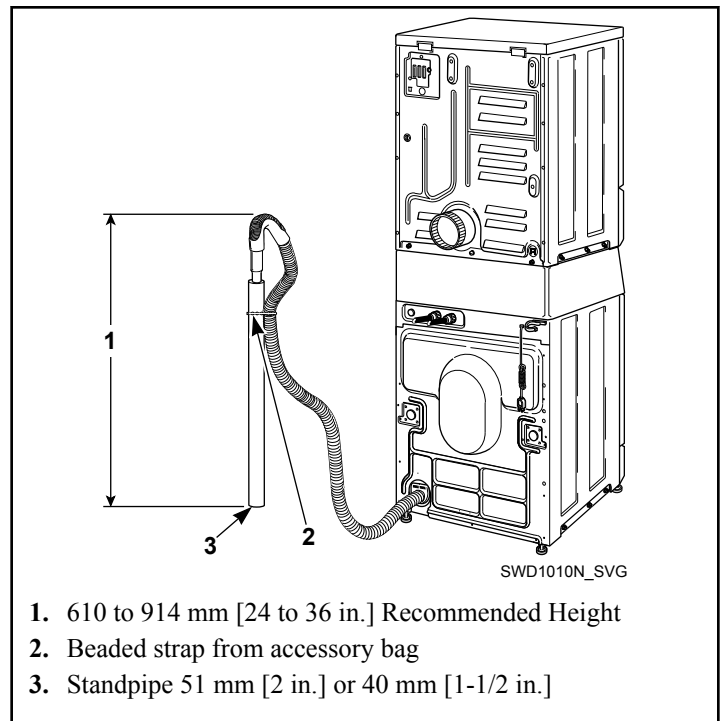

Figure 8
2. Remove the beaded tie-down strap from accessories bag and place around standpipe and drain hose. Refer to *Figure 8*.